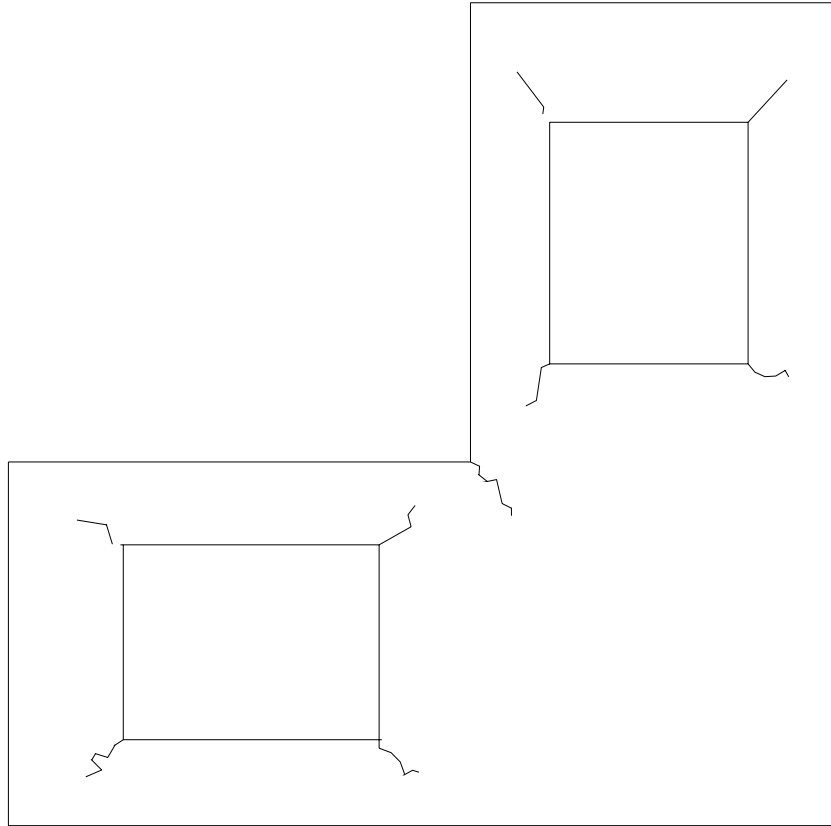

Figure A-9
- a. Stress cracking—Cracking of the laminate at corners and around cutouts (see Figure A-9) may be caused by improper conditioning, improper bonding, poor planning or any combination of these. Conditioning both the laminate and the substrate helps to prevent cracking caused by shrinkage. Rough edges, inside corners that have not been radiused, and forced fits can also cause cracking. Radiusing all edges and inside corners as large as possible 3 mm (1/8 in.) minimum will minimize stress cracking. A radiused corner created by a 6 mm (1/4 in.) diameter router bit is normally used. Seam placement of the laminate can also reduce stress cracking.